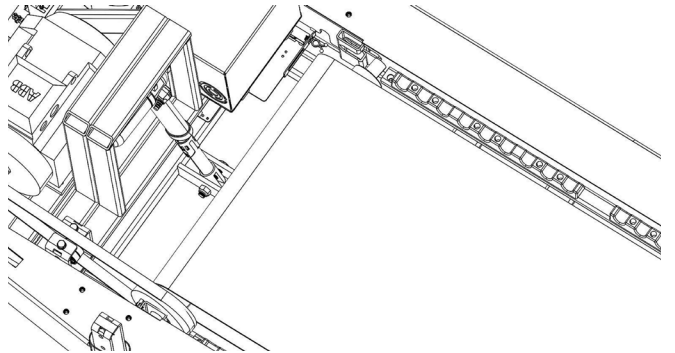

FIGURE 8
10. Tilt front roller as shown in picture and slide out, see fig: 8